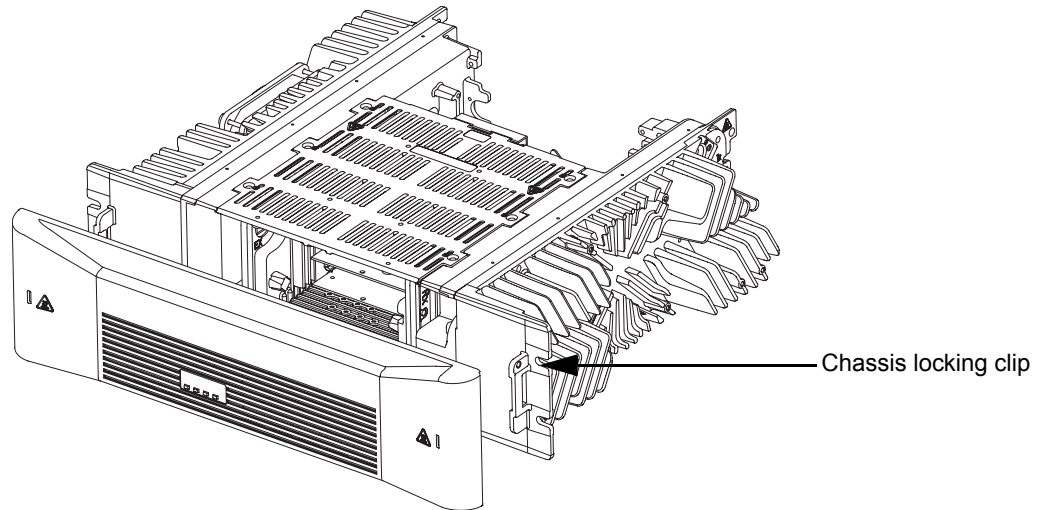

Figure 9-1. Removing Front Bezel
1. Remove the MTR2000 station front bezel from its chassis locking clip by carefully pulling the bezel forward (Refer to Figure 9-1).